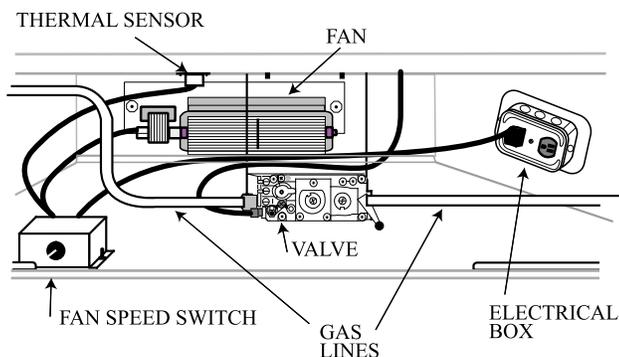

Fig. 54
3. Locate the fan speed control unit. This can be fitted behind the lower louvre assembly as in Fig. 54 or located remotely in a conveniently located wall mounted electrical box. Remote location of the speed control will require suitable extension of the component wiring.